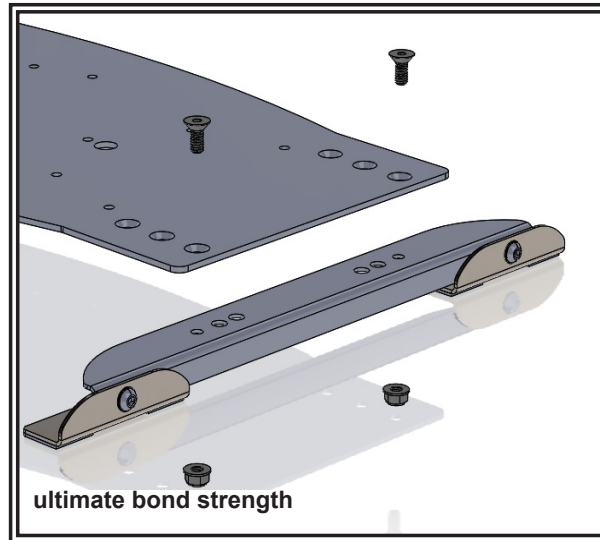

Figure 4
1. Attach the CZ6015 mount to the CZ6016 mounting plate using the supplied hardware. Use the countersunk holes in the mounting plate that allow the feet to sit on a flat part of the roof. Place the entire assembly on the roof of the vehicle. See Figure 4.